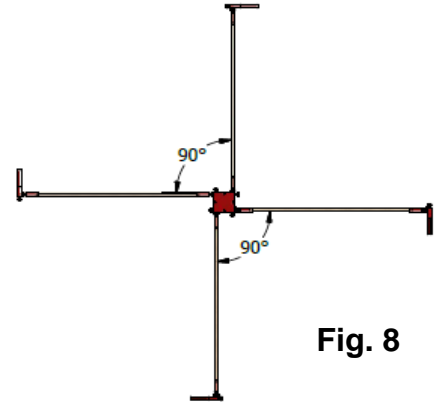

Fig. 8
5. **Repeat steps 1-4 as above** for anchoring the other **3 remaining Upright Assemblies** (see **Fig 8**).